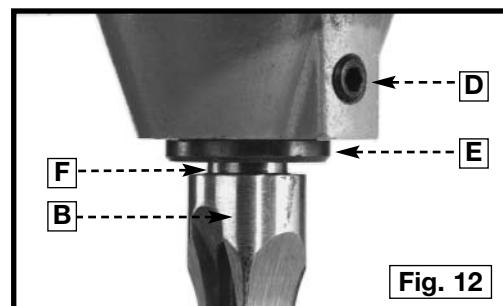

Fig. 12
IMPORTANT: When inserting the chisel (B) Fig. 12 into the head, leave a space of 1/16" to 3/16" clearance (F) between the bushing (E) and the shoulder of the chisel (B).